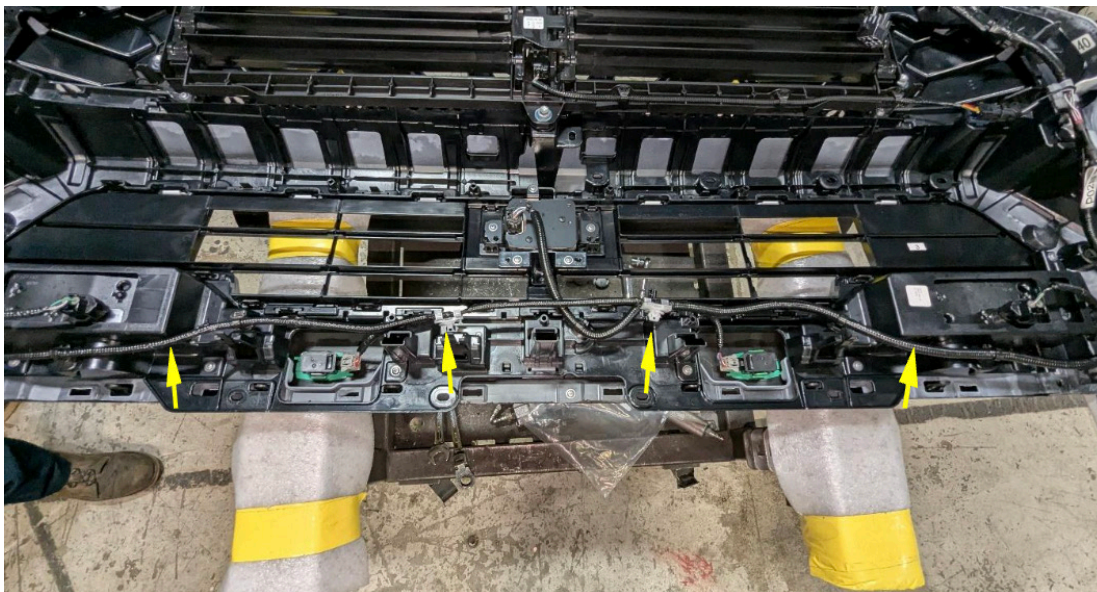

Figure 27
19. Using a panel pry tool, release the wiring harness retainers and move the harness up and out of the way as far as possible. (Figure 27)